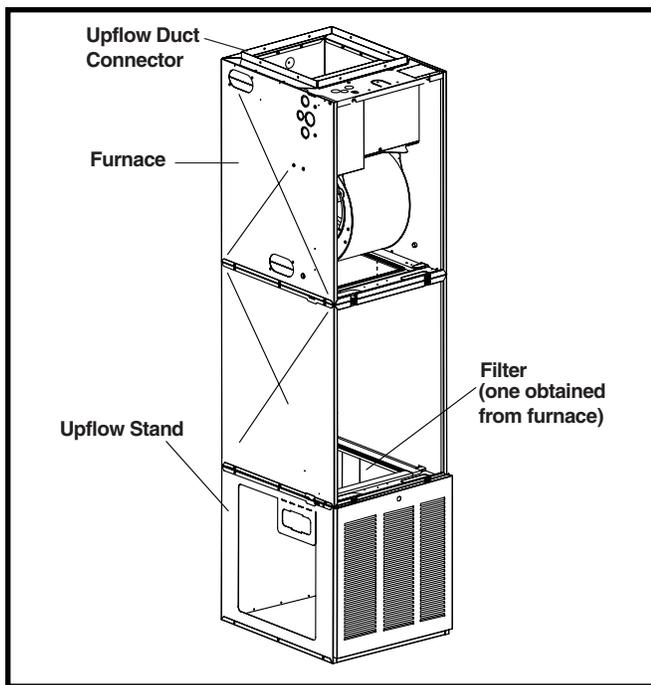

Figure 16. Over-the-Floor Return Air System with Upflow Stand
2. Use optional upflow stand with filters or construct a suitably braced mounting platform in closet. See Figure 16 \(page 13\).
6. Use optional upflow duct connector or field supplied connector to attach furnace to overhead supply duct. See Figure 16.